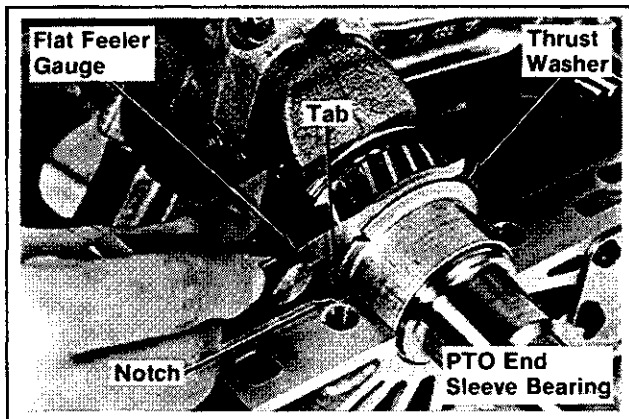
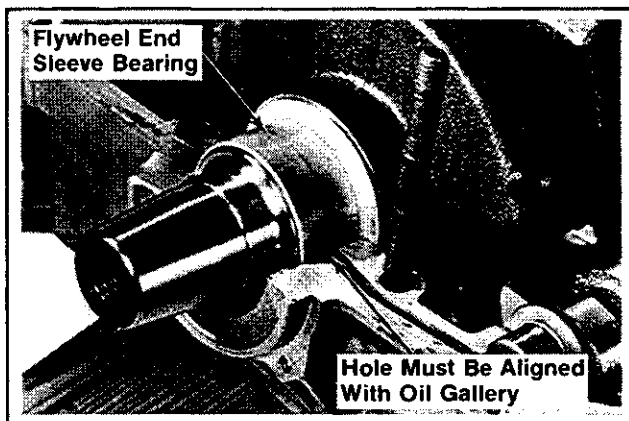

Figure 11-11. Position Of PTO End Bearing/Measuring Crankshaft End Play.
Figure 11-12. Position Of Flywheel End Bearing.
3. Install the crankshaft with connecting rods and bearings into crankcase. Make sure the locating tab of PTO end sleeve bearing is positioned in notch in crankcase. Refer to Figure 11-11. The oil hole in flywheel end sleeve bearing must be aligned with the oil gallery in crankcase. Refer to Figure 11-12.
4. Measure the crankshaft end play with a flat feeler gauge. The recommended crankshaft end play is  $.002/.014$ ". Refer to Figure 11-11.